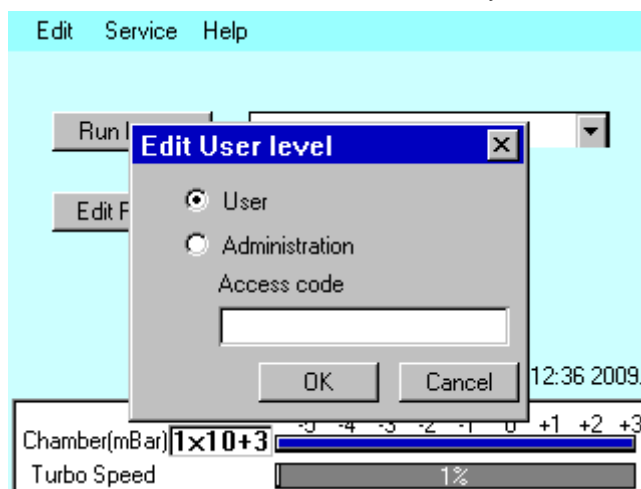

Figure 6-8. Changing the user level
1. Select **Edit | User | Level** from the menu bar. The *Edit User Level* dialog box is displayed (see **Figure 6-8**).